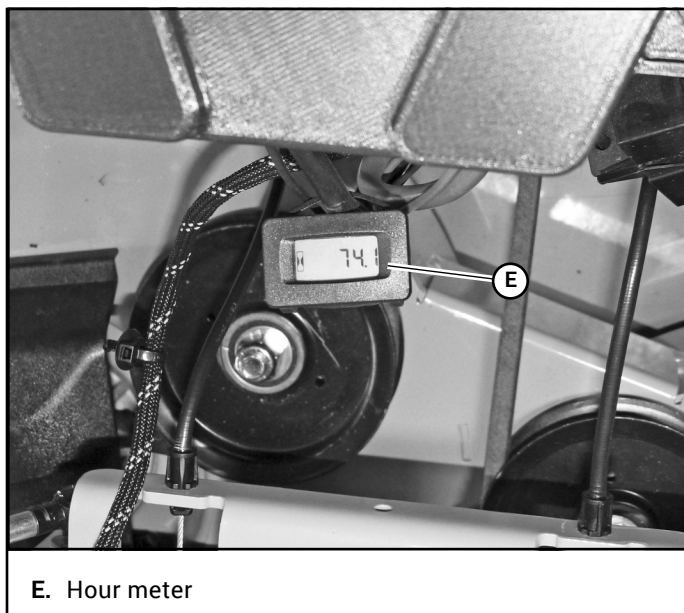

Figure 3-2
- E. **Electronic hour meter (Figure 3-2)** – registers 1/10 hour increments up to 9,999.9 total hours. Connected to the ignition switch, the meter records the accumulative time while the ignition key is switched to the RUN position.